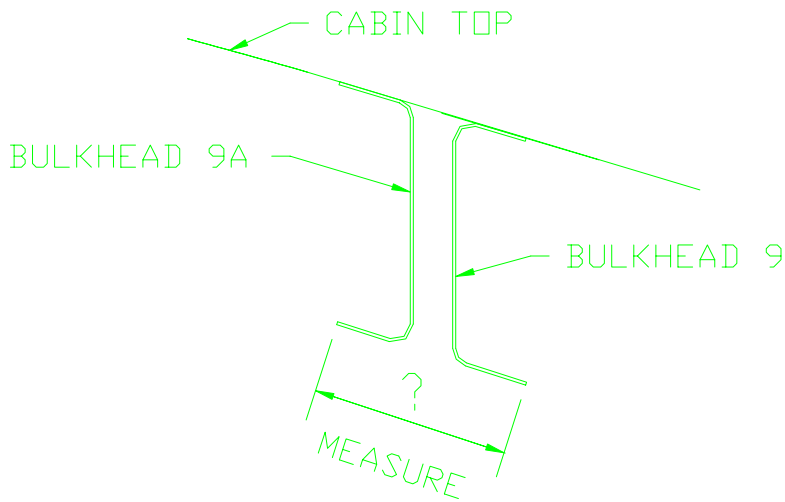

Figure 9.13.8
- 27) Measure the distance from the edge of one flange to the edge of the other. Figure 9.13.8.